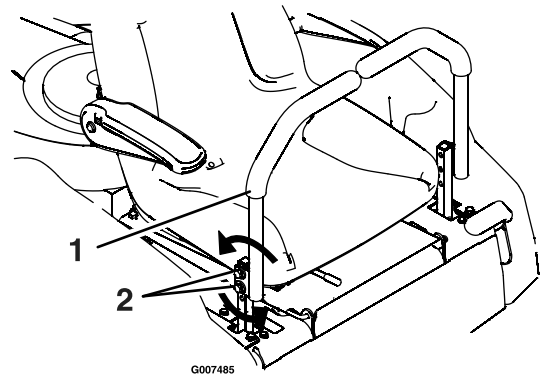

Figure 3
4. Align the levers front/rear position. With the levers in the neutral position, loosen the hardware and adjust the levers sliding and/or tilting the lever(s) forward or backward until properly aligned and tighten hardware (Figure 3).